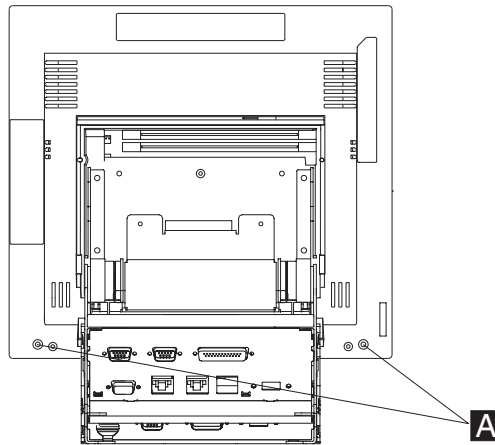

Figure 64. Removing the two screws securing the touch screen
5. Tilt the display to its vertical position and remove the two screws **A** securing the bottom of the touch screen to the display as shown in Figure 64. (The screws are recessed, in the lowest outboard position at the bottom corners of the rear of the display.)